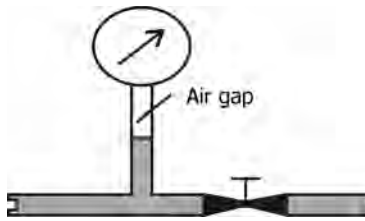

FIGURE 2.10 Air gap cushions shock waves when valve is suddenly closed.
- Installing a riser tube with a pressure gauge on the pipe on the upstream of valve on the piping: When the valve is closed, the hammer pulse generated is absorbed by the air column between the gauge and piping, as illustrated in Figure 2.10. Air is compressed absorbing the shock wave with the pressure rise indicated by the pressure gauge.